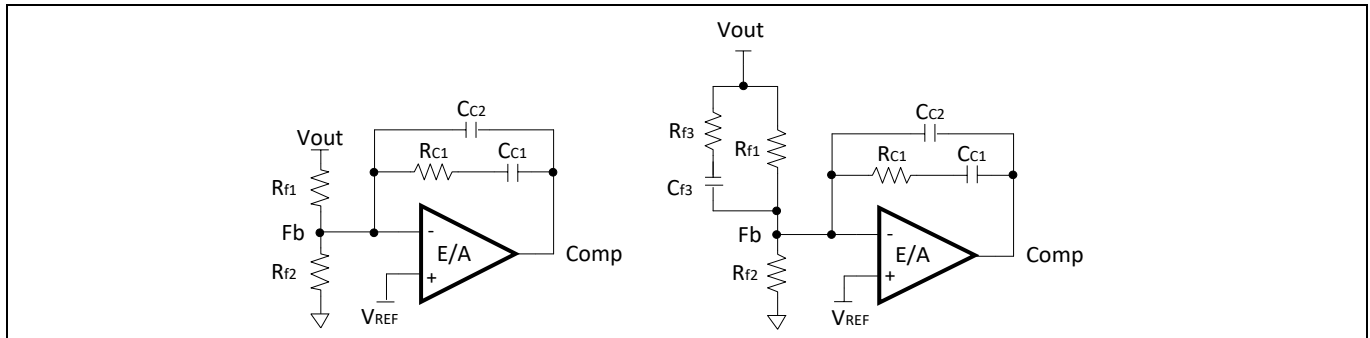

Figure 8 Loop Compensator: (left) Type II, (right) Type III
Two types of compensators are commonly used: Type II (PI) and Type III (PID), as shown in Figure 8. The selection of the compensation type is dependent on the ESR of the output capacitors. Electrolytic capacitors have relatively higher ESR. If the ESR pole is located at a frequency lower than the cross-over frequency, f_c , the ESR pole will help to boost the phase margin. Thus, a type II compensator can be used. For the output capacitors with lower ESR such as ceramic capacitors, type III compensation is often desired.